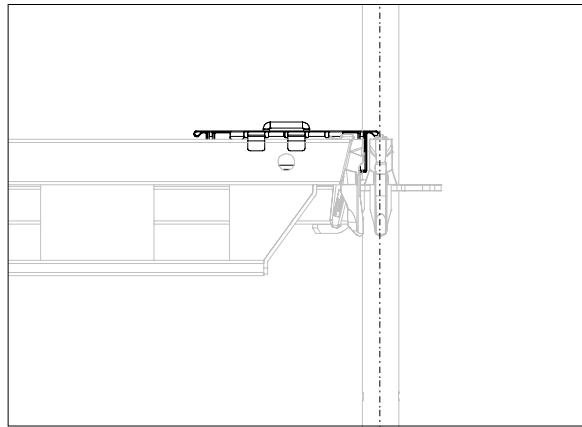

Fig. A9.01
- Installation of the first deck begins at the system axis of the ledgers or standards. (Fig. A9.01 + A9.02)